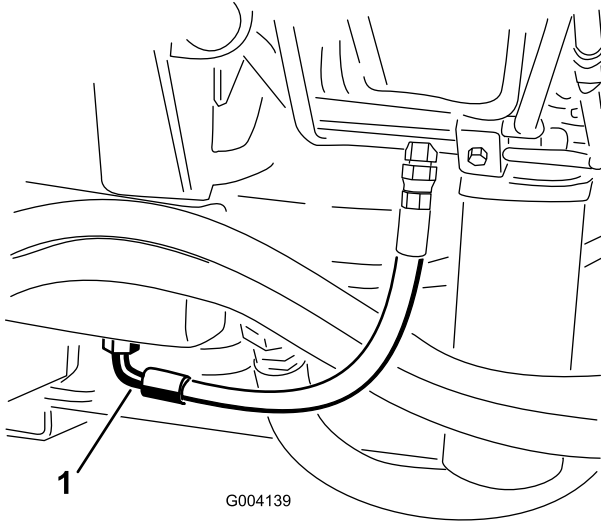

Figure 56
2. Place a large drain pan under the fitting secured to the bottom of the hydraulic-fluid reservoir (Figure 56).